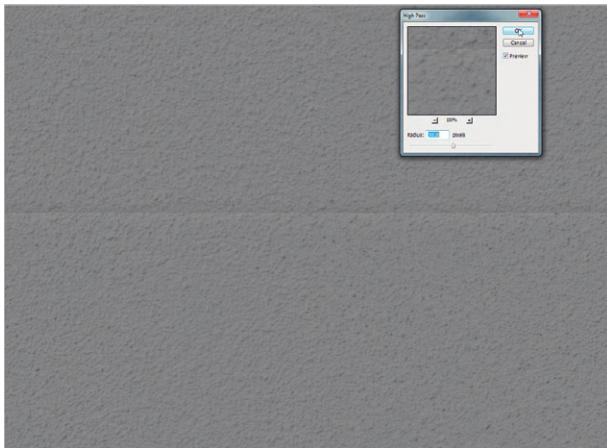

FIG B.6 Using the High Pass Filter to further flatten the image.
Step 6: Use the High Pass Filter to further unify the surface. To get to the High Pass Filter, go to **Filter>Other>High Pass**. Tweak Radius slider so that you are left with a further flattened image (Figure B.6).